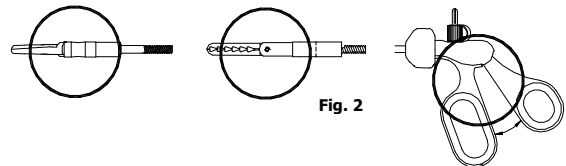

Fig. 2
1. Gently close the blades/jaws with your index finger and your thumb to insure complete closure (See Fig. 2).